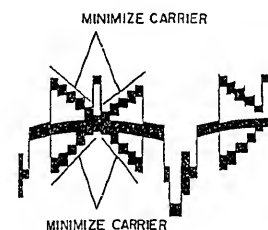

Fig. 4-9
9) White Balance Adjustment (Figs. 4-9, 4-52)
(Fig. 4-9)